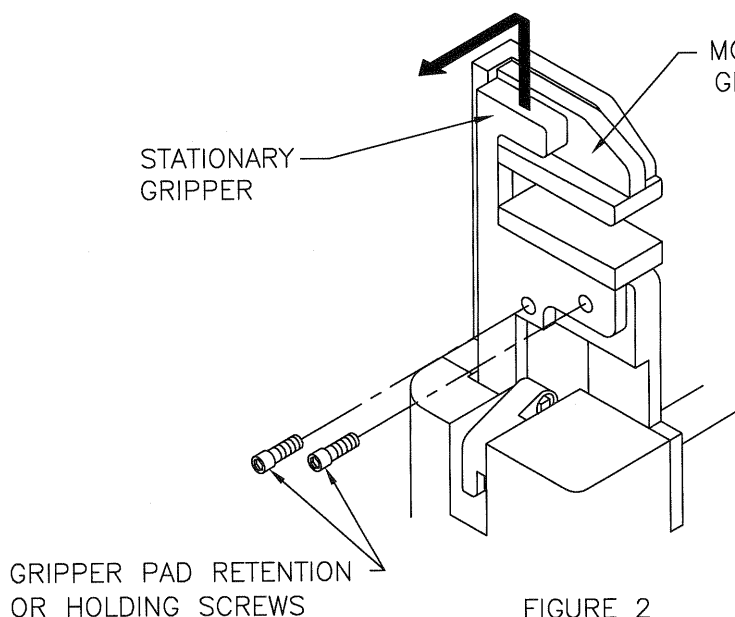

FIGURE 2
3. Remove the stationary gripper (see Figure 2).